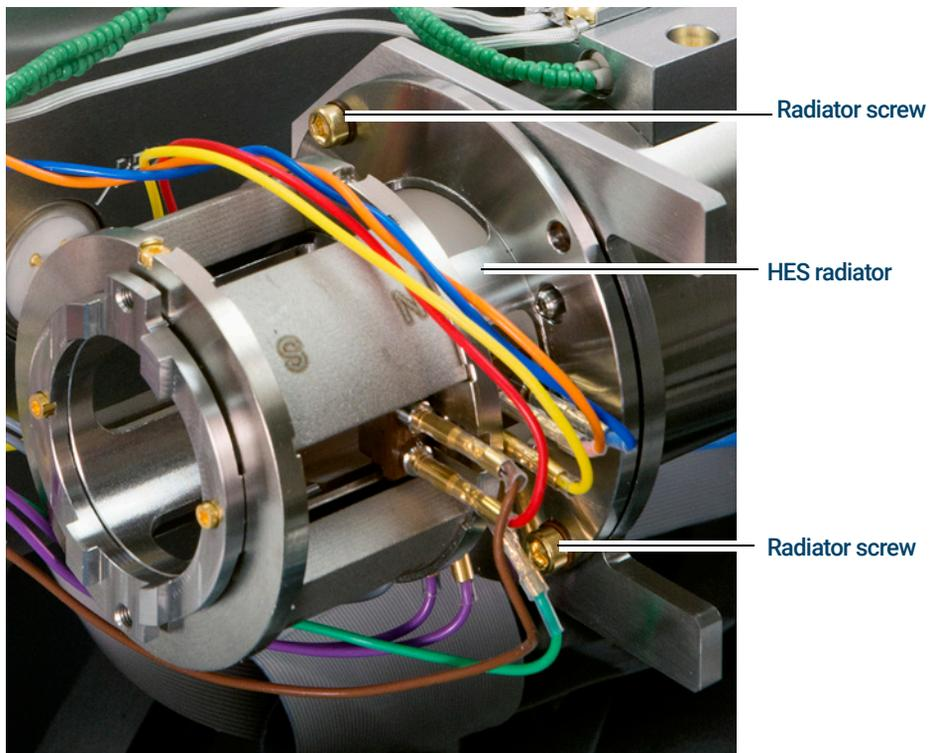

Figure 81. Securing the EI HES radiator
- 1 Place the radiator over the guide pins on the analyzer support and use a T10 Torx screwdriver to secure it using the (2) M3 × 12 gold plated screws (G7002-20110). (See **Figure 81** on page 245.)